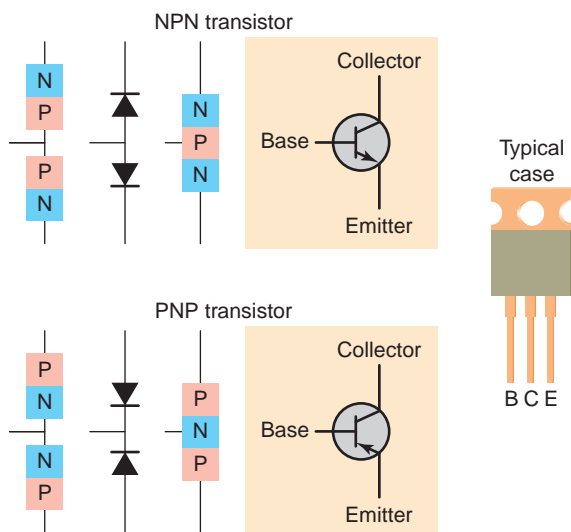

Figure 9-13 Bipolar junction transistor (BJT).
In their most basic form, bipolar transistors essentially consist of a pair of PN junction diodes that are joined back to back as illustrated in Figure 9-13. It consists of three sections of semiconductors: an emitter (E), a